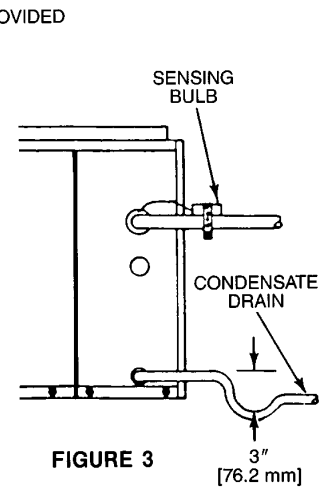

FIGURE 3
2. The expansion valve sensing bulb must be strapped securely to the top of the suction line on the outside of the coil cabinet. Both the bulb and suction line must be insulated. See figure 3.
3. The condensate drain connection is 3/4" [19 mm] NPT. A 3" [76.2 mm] trap with adequate pitch must be provided. See figure 3.